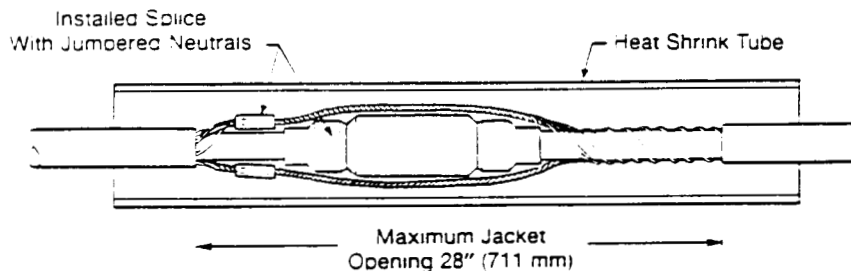

Figure 1
5. Prepare cable jackets 6 inches (152) mm beyond each side of splice opening by:
6. Center heat shrink sleeve over cable jacket opening. Figure 1.